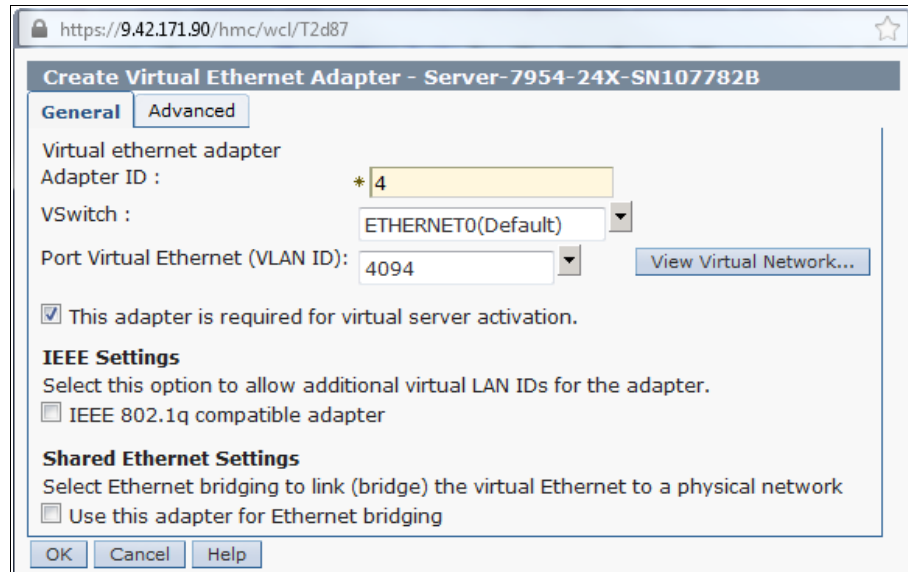

Figure 8-40 Virtual Ethernet values
6. Repeat steps 1 and 2 and use the following values, as shown in Figure 8-40 on page 390: